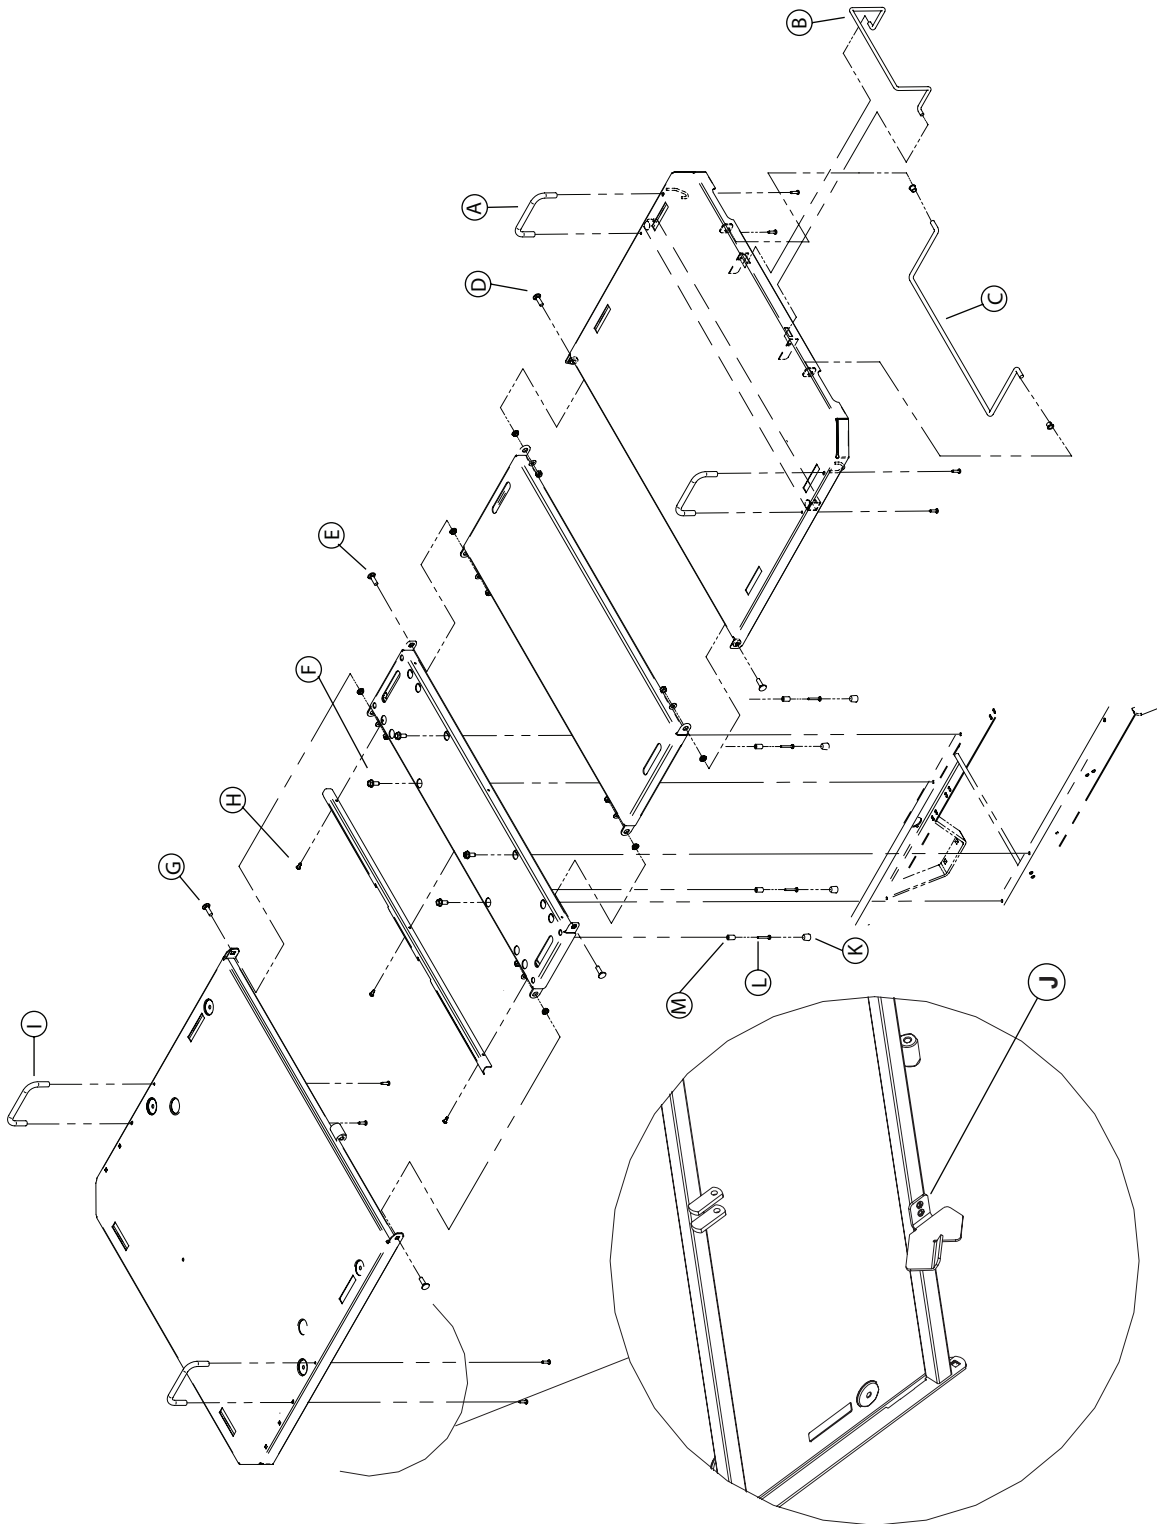

Figure 3.2A
Unless otherwise indicated, refer to Figure 3.2A on page 17 for the illustration of the references contained in the following procedure.
10. Using a 1/2" wrench, remove the two locknuts, flat washers, shoulder spacers and bolts (G, Figure 3.2A, page 17) linking the head section to the seat section. Remove the defective head section.